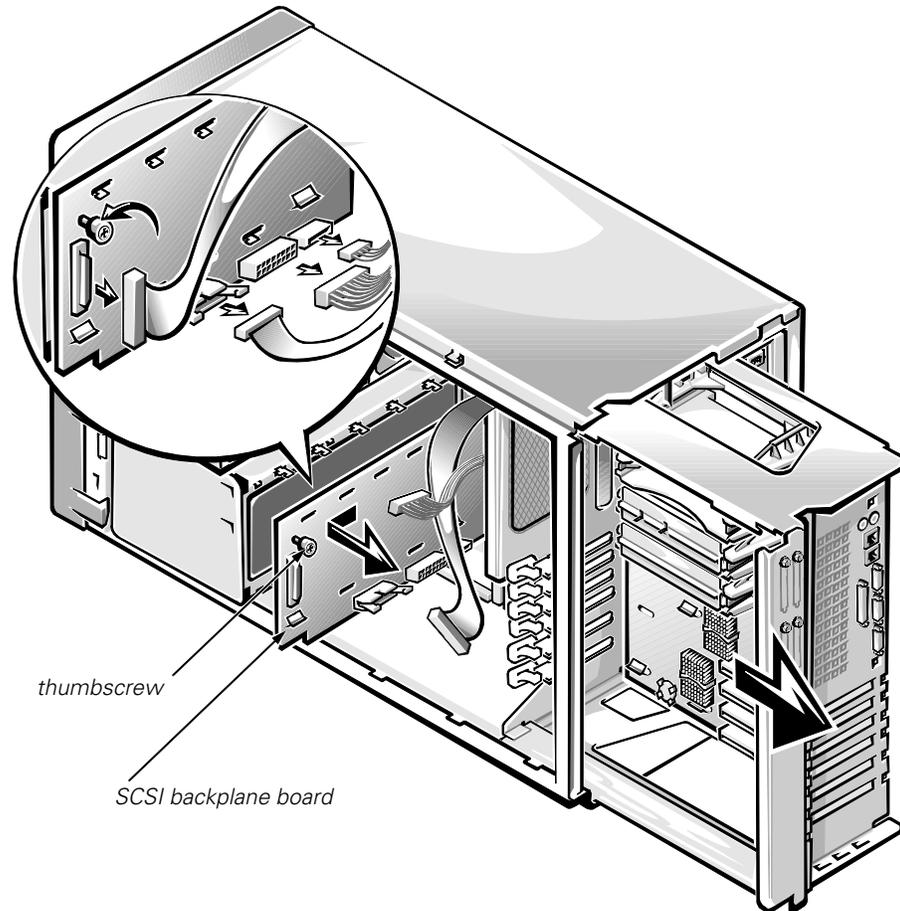

Figure 4-10. Removing a SCSI Backplane Board
4. Loosen the thumbscrew on the backplane board (see Figure 4-10).